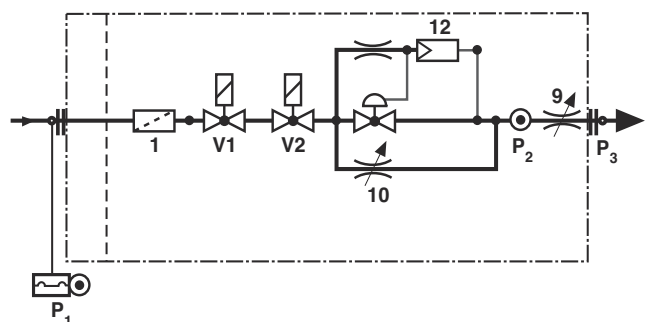

Fig. 9
- A.** measuring nozzle P2 (Fig. 9) before valve D
- C.** startup valve (no. 10 in Fig. 9)
D. maximum flow rate valve(no. 9 in Fig. 9)